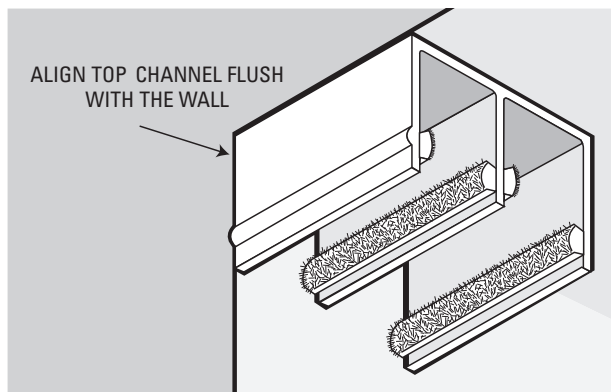

Figure 1
- C. When cut to proper length, install Top Channel (#2) up to the top front of closet opening making sure that the front of the Top Channel (#2) is flush with outside walls (See Figure 1). Hold up to the Top Channel (#2) in the desired position and with your pencil, mark where the pre-drilled holes are in the Top Channel (#2).